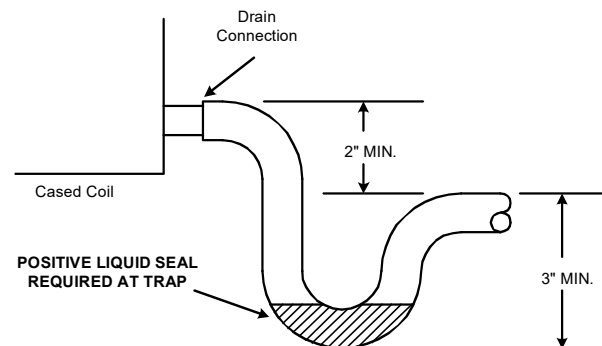

Figure 7
The installation must include a "P" style trap that is located as close as is practical to the evaporator coil. See Figure 7 for details of a typical condensate line "P" trap.
**NOTE: UNITS OPERATING IN HIGH STATIC PRESSURE APPLICATIONS MAY REQUIRE A DEEPER FIELD CONSTRUCTED "P" STYLE TRAP THAN IS SHOWN IN FIGURE 7 TO ALLOW PROPER DRAINAGE AND PREVENT CONDENSATE OVERFLOW.**